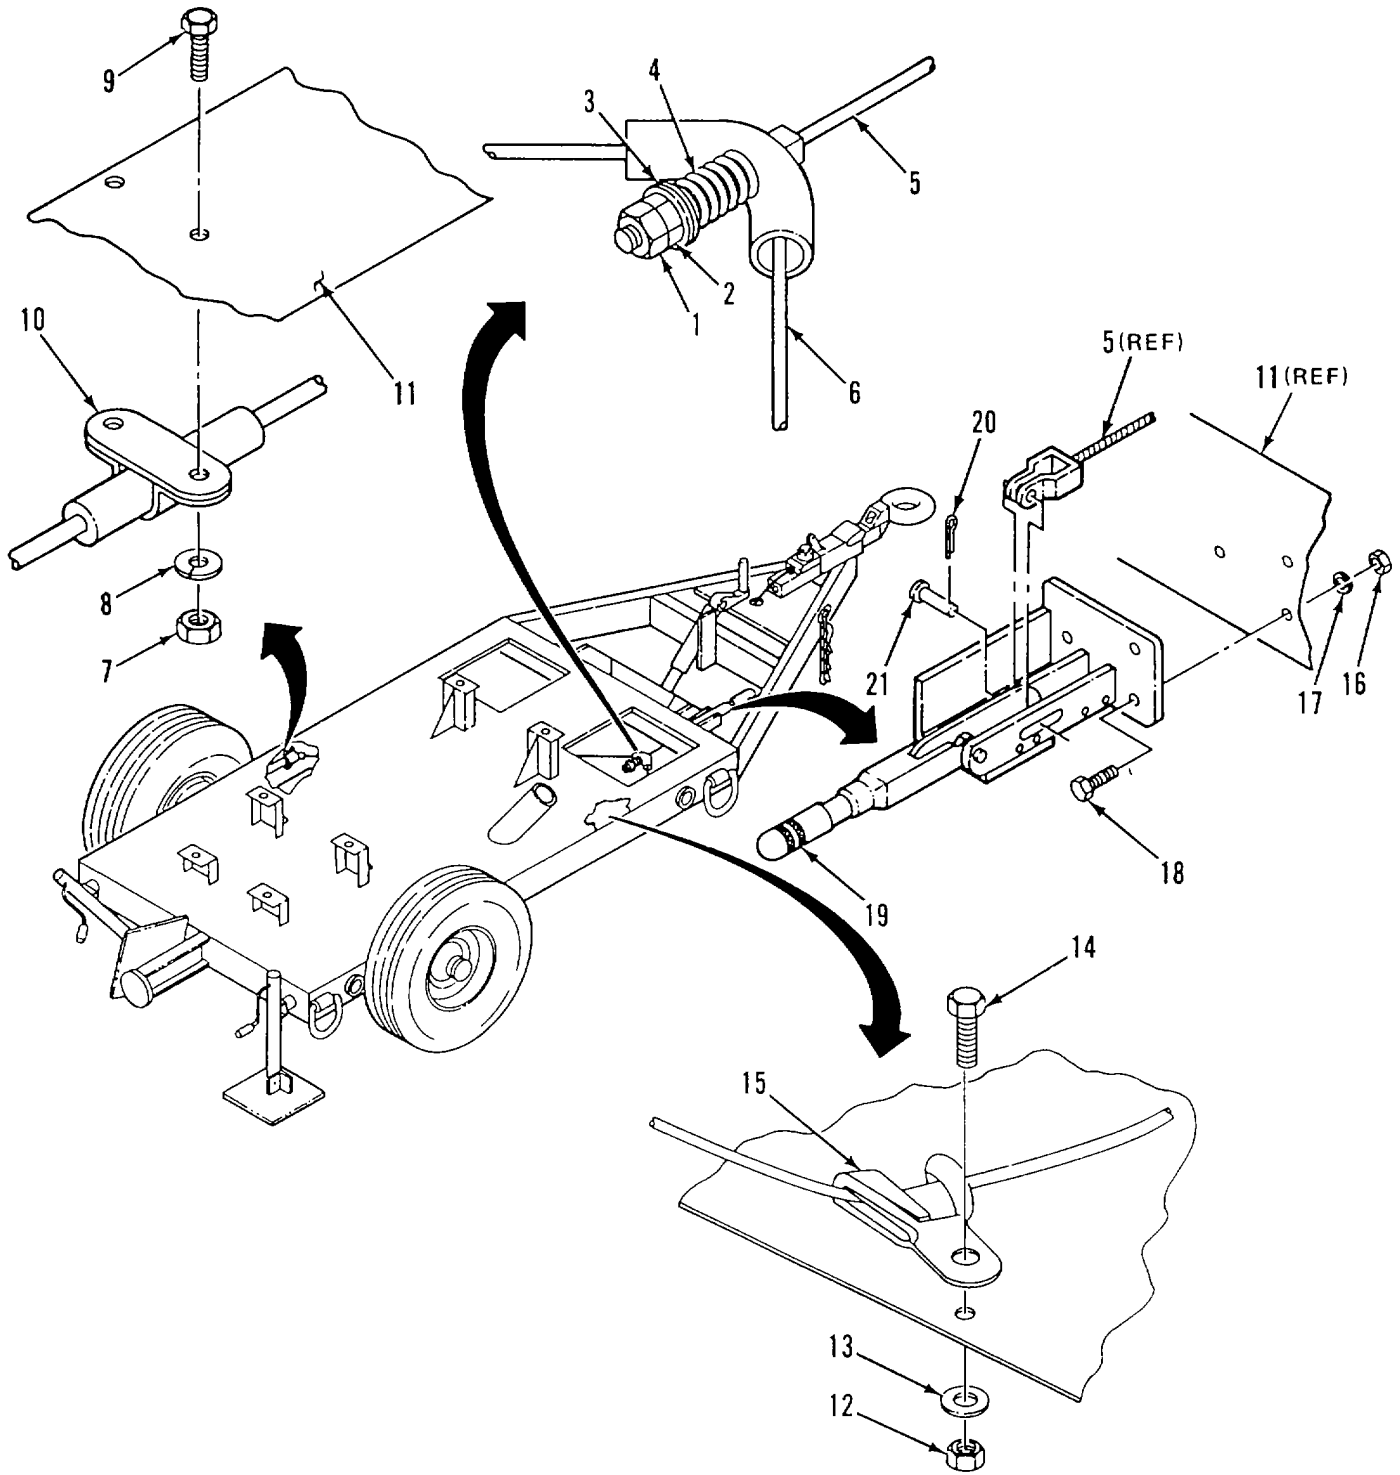

Figure 2-48. Hand Brake Assembly
- a. REMOVE. (Figure 2-48)
- (1) Release handbrake lever (19).
- (2) Remove nuts (1 and 2), flat washers (3), and spring (4) holding rear cable (6) to front cable (5).
- (3) Remove nuts (7), lockwashers (8), and bolts (9) holding two cable hanger clamps (10) to trailer chassis (11).
- (4) Remove nut (12), lockwasher (13), and bolt (14) holding two clamps (15) to trailer.
- (5) Remove front cable (5) from handbrake lever (19).
- (6) Remove nuts (16), lockwashers (17), and bolts (18) holding handbrake lever (19) to trailer chassis (11).
- (7) Remove cotter pin (20) and pin (21) holding front cable (5) to handbrake lever (19).